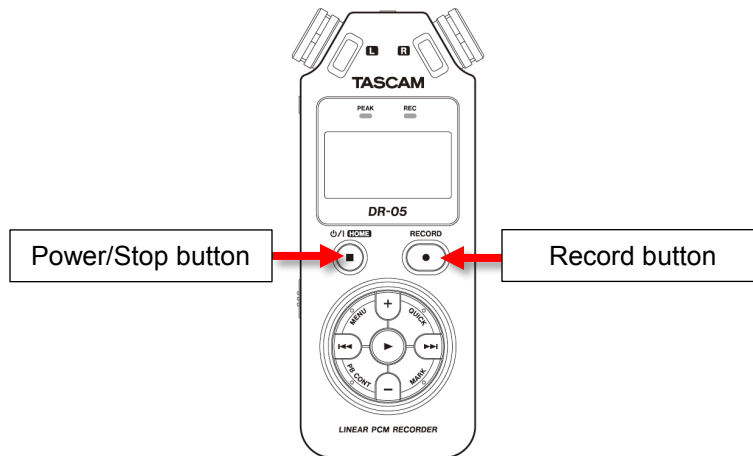

Figure 1
2. Hold down the Power/Stop button to turn on the recorder (Figure 1).